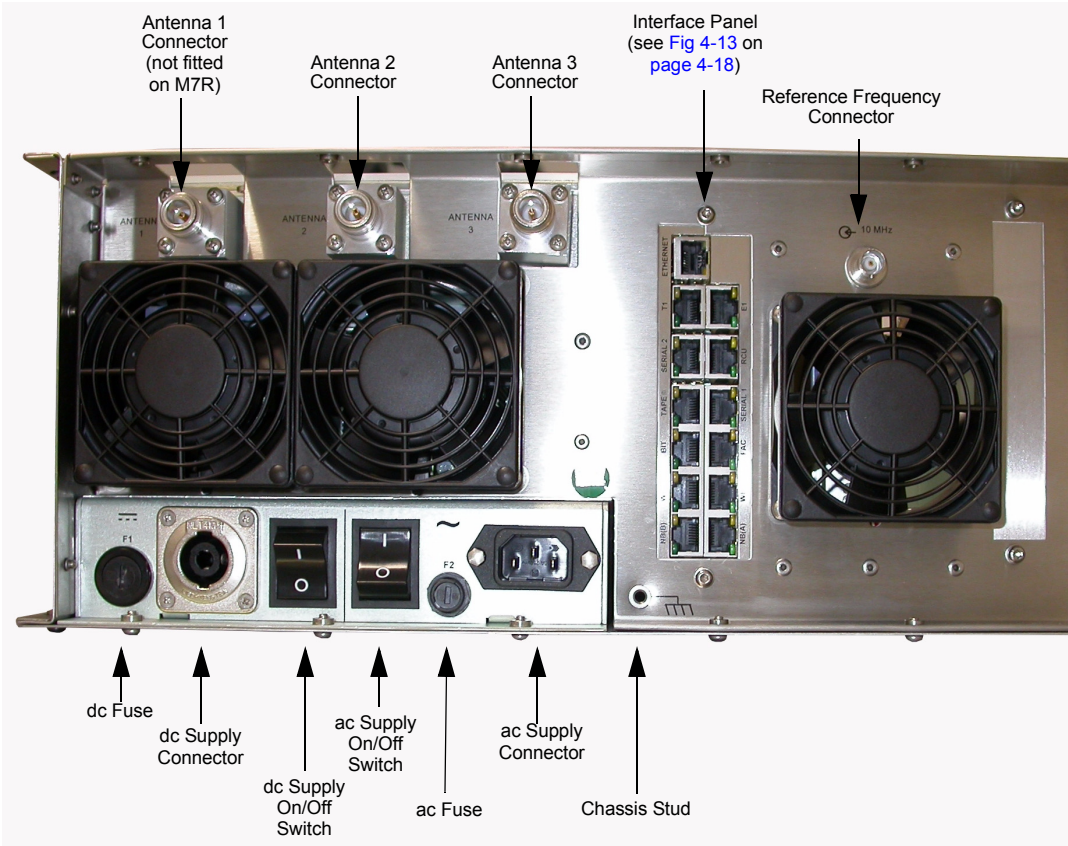

Fig 4-4 M7X/M7R Radio Rear Panel Controls and Connectors
The M7X transceiver has three antenna connectors (designated Antenna 1, 2 and 3) as shown in Fig 4-4 on page 4-6. Six antenna configurations are possible as detailed in Table 4-3.
The antennas connect to the Antenna 1 (not M7R) Antenna 2 and Antenna 3 connectors as shown in Fig 4-4 on page 4-6 and as applicable to the antenna options selected.
In order not to compromise the radio's Electromagnetic Compatibility (EMC) the chassis stud, marked  and fitted to the rear panel (see Fig 4-4 on page 4-6) must be connected to the equipment cabinet (if a cabinet is being used) or to the user's system earth point. The connection should be made using a single tri-rated, green-and-yellow cable having a cross-sectional area of 2.5 mm². The cable should have CSA and UL1015 approval, and be connected to the chassis stud through an M5 eyelet (for example, Park Air part number 20-08010103).
The dc input supply connects to the radio's rear panel dc supply connector as shown in Fig 4-4 on page 4-6. Connection is made using the dc input connector supplied with the radio (item 1 of the customer kit – see page 4-4).
An ac input IEC connector is fitted to the equipment's rear panel as shown in Fig 4-4 on page 4-6. The connector's pin-out is shown in Fig 4-10.